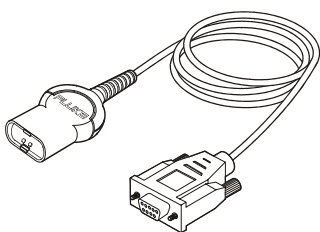

Fig. 1. PM9080
- PM9080 Optically Isolated Interface Cable (Fig. 1). To be used for Fluke 433/434/435.